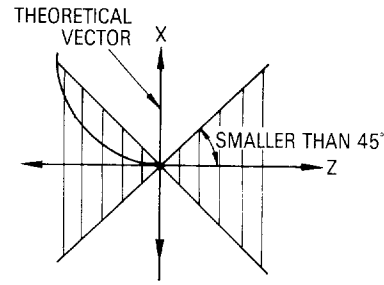

Fig. 15
- (b) If the vector direction of the circular arc cutting command moving axis is smaller than 45° , or is equal, relative to Z-axis, a vector (wall) parallel to Z-axis is theoretically erected to make compensation calculations with the cutting moving axis. The tool moves toward this calculated position. See Fig.15.